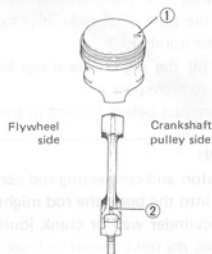

Fig. 4-108
**POSITION OF PISTON RELATIVE TO CONNECTING ROD:** The arrow ① on the crown points to crankshaft pulley side, and the oil hole ② comes on inlet port side. See Fig. 4-108.